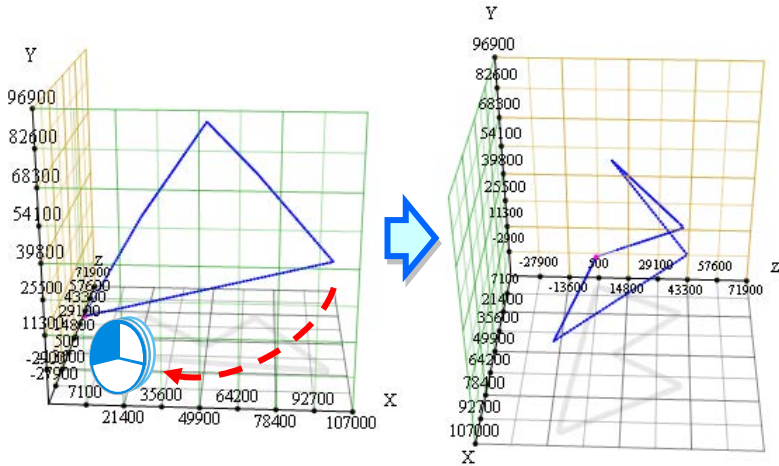

Figure 13-6 Turning the chart in the **3D Chart** window
- ② In the **View Mode** section, the users can select the 3D option button, the XY Plane option button, the ZX Plane option button, or the YZ option button. Besides, the users can select the **Path Points** checkbox, the **Shadow** checkbox, and the **Grids** checkbox. If the **Auto Fit** checkbox is selected, the coordinate ranges on the chart will be modified according to the size of the path drawn. **Clear** is used to clear the path which has been drawn.
- ③ The path of the three axes of the motion controller is shown here. The users can turn the chart in the **3D Chart** window by dragging the chart, as shown in figure 13-6. Besides, the users can adjust the coordinate ranges on the chart by using the mouse wheel.